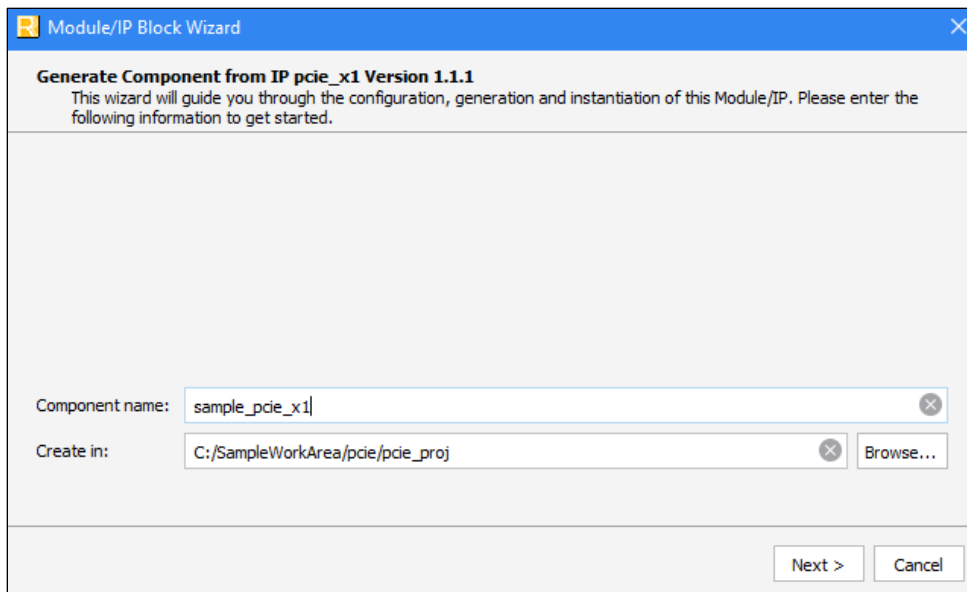

Figure 7.2. Configure Module/IP Block Wizard
4. Double-click on *PCIe_X1* to open the **Module/IP Block Wizard** as shown in Figure 7.2.